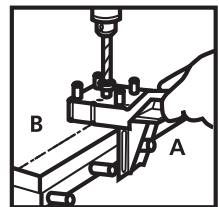

Figure 20
10. Using the Quick Dowel Jig as a guide, set the depth stop on the drill bit so you do not drill through board B. Drill a hole for each dowel pin. See Figure 20.